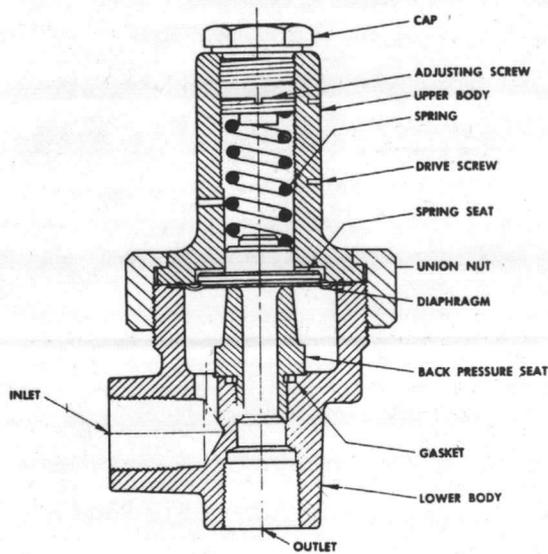

Figure 4. Milton Roy Back Pressure Valve
b. A back pressure valve is a spring-loaded diaphragm valve especially designed for back pressure service. It is designed to open on each pumping stroke, rather than only for emergency relief of pressure surges. A diaphragm protects the spring from the corrosive action of the liquid being pumped and prevents particles from clogging the spring. A typical back pressure valve is shown in Figure 4.